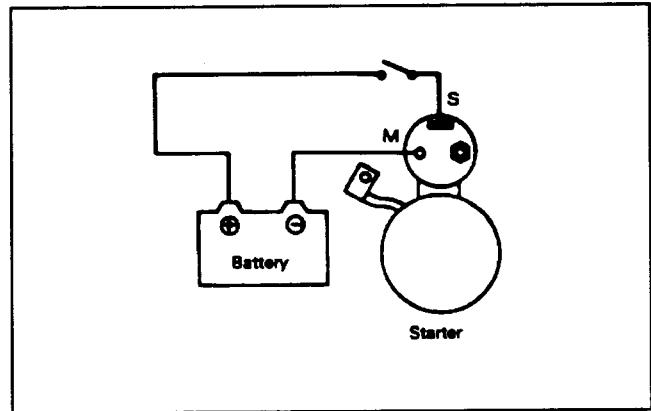

Figure 31
1. Disconnect the wire from terminal "M" (Fig. 31).